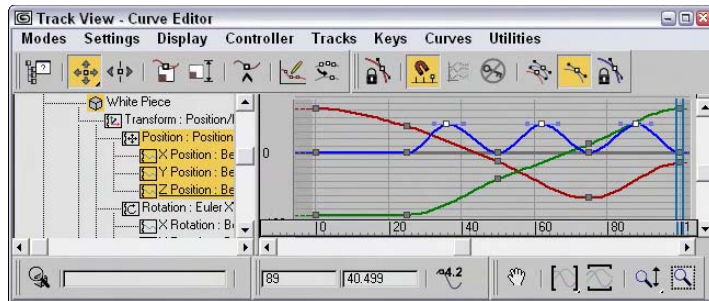

Figure 33-26: The new keys are moved up.
6. Select Move Keys Vertical from the Move Keys flyout, and select the three new keys. Move them up about 50 units, as shown in Figure 33-26.